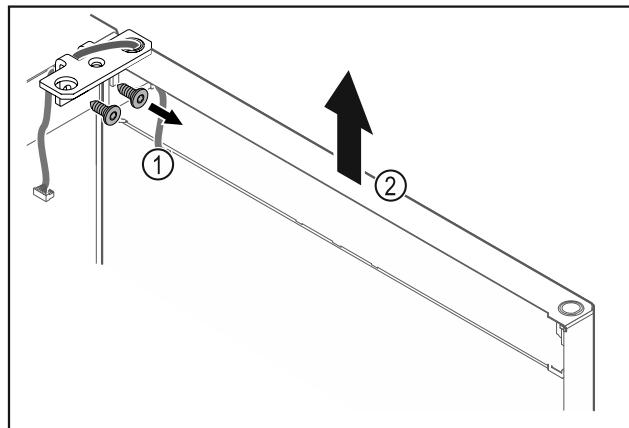

Fig. 21
- Unscrew the hinge Fig. 21 (1).
- Lift the door with the hinge straight up by Fig. 21 (2) roughly 200 mm and take it off.